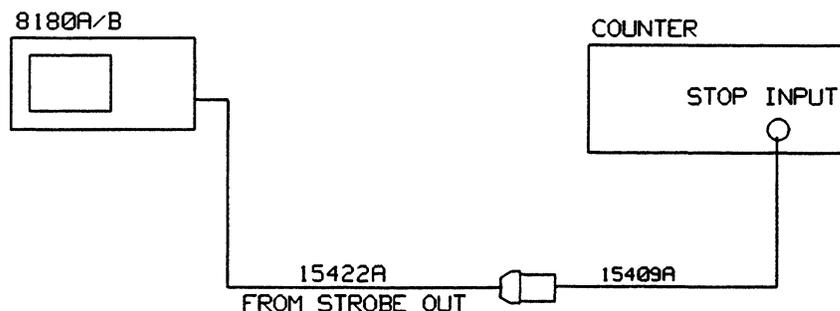

Figure 11-1. Test Setup for the Internal Clock Frequency Test
- Connect equipment as shown in Figure 11-1 and press RUN.